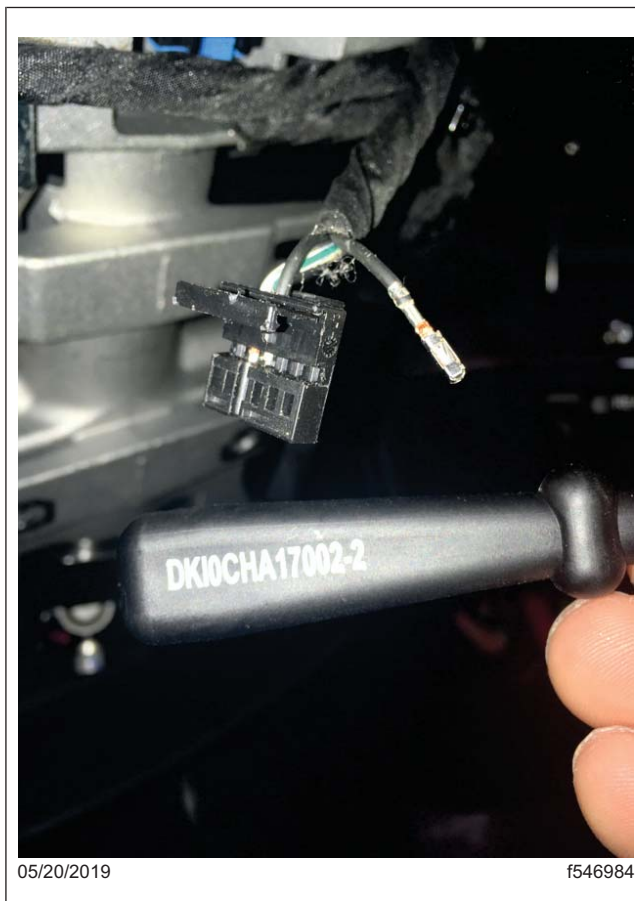
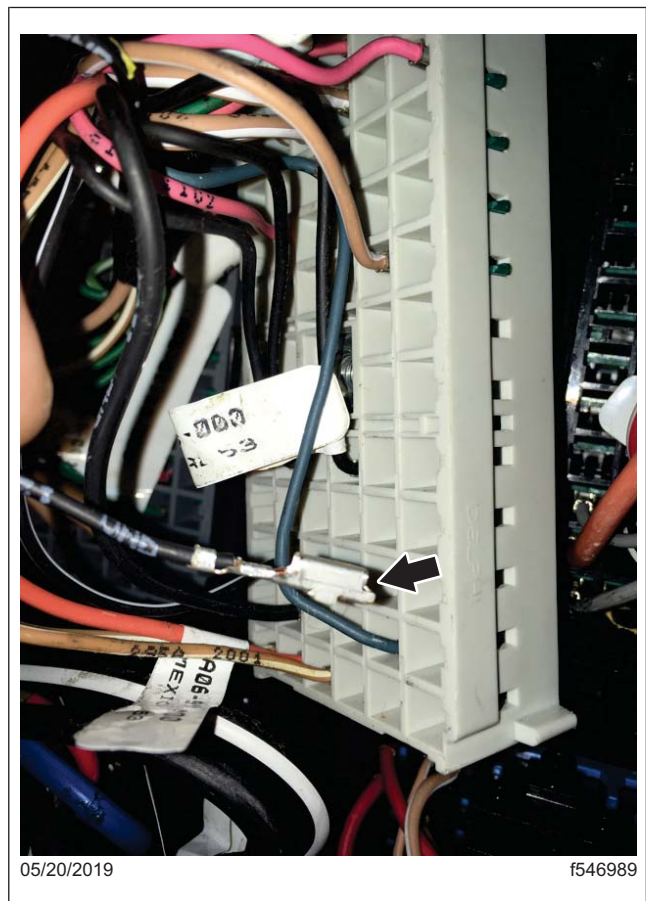

Fig. 13, Wire Removal Tool DDE DKIOCHA17002-2
Fig. 14, Removing the Ground Wire from Connector J6, E10
- 16.3 Locate and remove the black ground wire from VPDM connector J6, pin E10 by removing the green terminal lock from the connector and then removing the wire/terminal while at the same time releasing the lock tab using tool DDE DK10CHA17002-2, or a similar tool. See Fig. 13 and Fig. 14.